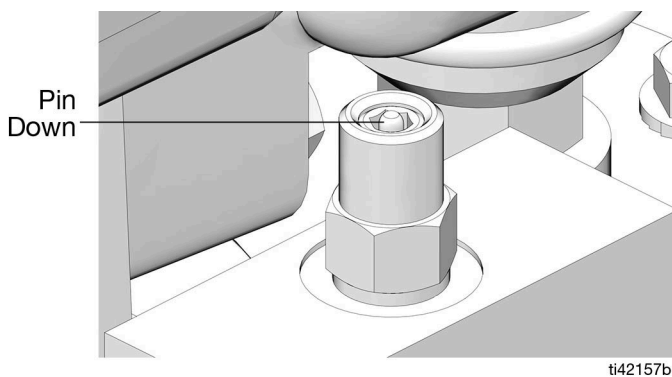

FIG. 5
3. Verify that the auto-fill shut off pin is down and reset (FIG. 5).